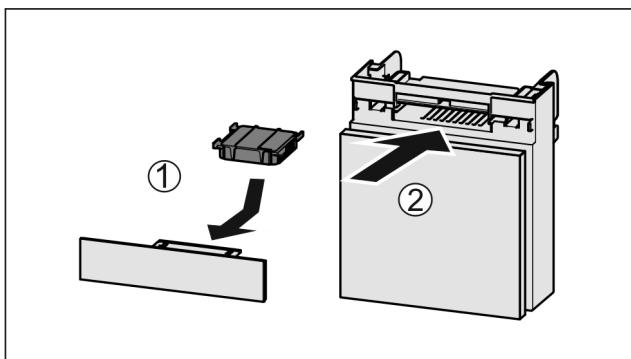

Fig. 57
- ▶ Insert the carbon filter as shown in the diagram Fig. 57 (1).
- ▶ Push the compartment in Fig. 57 (2).